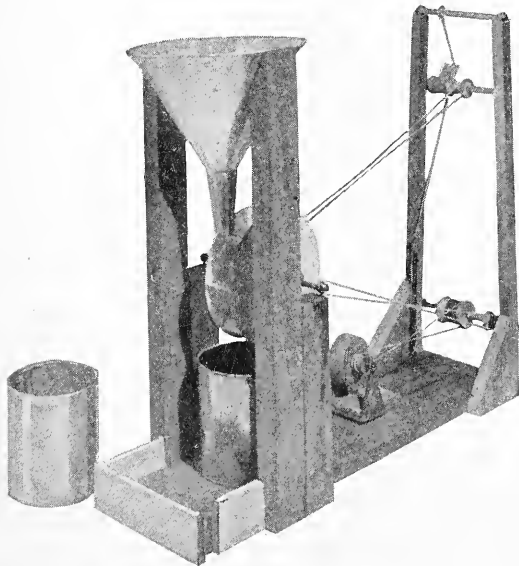
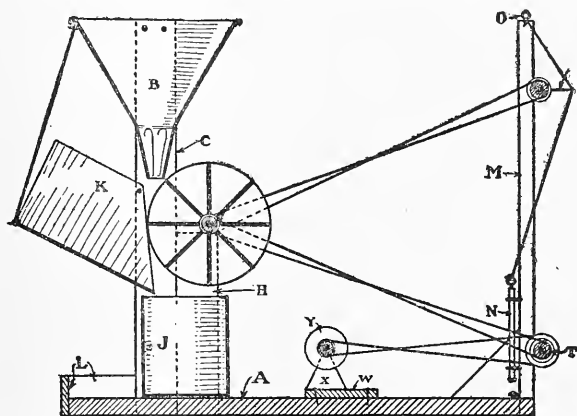

Fig. 345.—TOY MACHINERY CAN BE OPERATED BY THE SAND-MOTOR.
FIG. 347. — Longitudinal Section through Sand-Motor Toy
In the photograph of Fig. 345 you will see
Figure 347 shows a longitudinal section of the completed toy. You can make the base any size that you want. That for the model illustrated (A), is 6 inches wide and 22 inches long.
Figure 347 shows a cross-section of
ends in screw-eyes driven into a pair of uprights (*H*, Fig. 350) fastened next to the sand-hopper supports (Fig. 347). Drive brass upholstering-tacks into the shaft ends to prevent them from pulling through the screw-eyes.
The Position of the Paddle-Wheel must be as shown in Fig. 347, so the falling sand will strike upon the ends of the paddles. A tomato can (*J*, Fig. 347) catches the sand after it passes over the paddles of the wheel. It is best to have a pair of these cans, so that as soon as one fills it may be removed, and the second can quickly be slipped into its place. The filled can may then be emptied back into the sand-hopper.
The paddle-wheel will throw forward part of the sand; therefore, to catch this sand, it is a good plan to make a cardboard chute similar to *K* (Fig. 347), and fasten its turned up edges to the hopper supports, and suspend its outer end by means of string run from it to the edge of the
hopper. In the photograph (Fig. 345), the chute was removed so as not to obstruct the view of the paddle-wheel. A small proportion of sand will spill even with the chute in position. To keep this from running off the base onto the floor, it is a good plan to make a ledge by nailing the strips *L* (Fig. 347) to the base edges. An opening at one corner (Fig. 345) will provide an outlet through which to pour out the spilt sand occasionally.
(Figs. 347 and 354), support *shafting* and *pulleys* operated by *belts* from the paddle-wheel. One of the shafts operates
the *trip-hammer*. The trip-hammer consists of a piece of pencil or dowel-stick (*N*, Figs. 347, 354 and 356), which slides up and down through a pair of screw-eyes screwed
the outer face of uprights *M* in the positions shown. Once during every revolution of the shaft, tripper finger *P* will strike the hoisting-cable and raise the hammer as shown in Fig. 347, releasing it in passing, and letting the hammer drop upon the anvil. Run a string belt from spool pulley *R* over to one of the spool pulleys *G* on the paddle-wheel (Fig. 348).